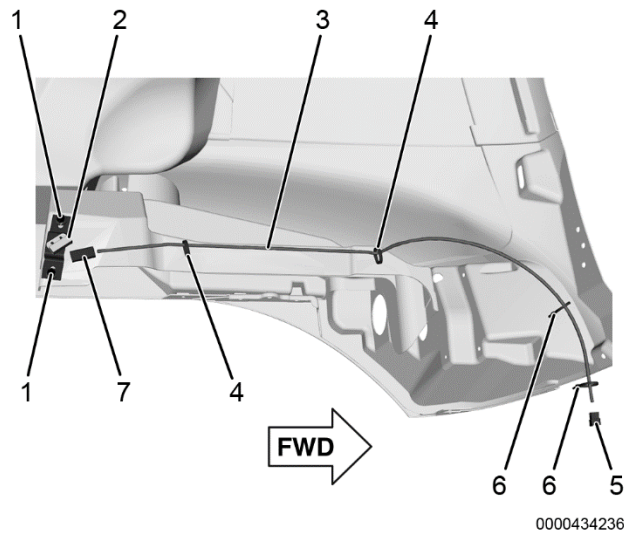

Figure 2. Harness Routing
1. Mounting bolt (2)
4. Cable tie strap 382 mm (2)
6. Cable tie strap (2)
8. Install hood position bracket using appropriate mounting bolts (Figure 2, Item 1) and nuts.
10. Install hood position switch (Figure 2, Item 2) using appropriate bolts, washers and nuts.
12. Install hood position switch harness connector (Figure 2, Item 7) into hood position switch (Figure 2, Item 2).
13. Route hood position switch harness to left hood splash panel and secure with cable tie strap (Figure 2, Item 6).
14. Continue to route hood position switch harness to left-side headlight harness and secure with cable tie straps 382 mm (Figure 2, Item 4).
15. Connect hood position switch harness chassis connector (Figure 2, Item 5) to forward chassis harness connector near left-side headlight connector.